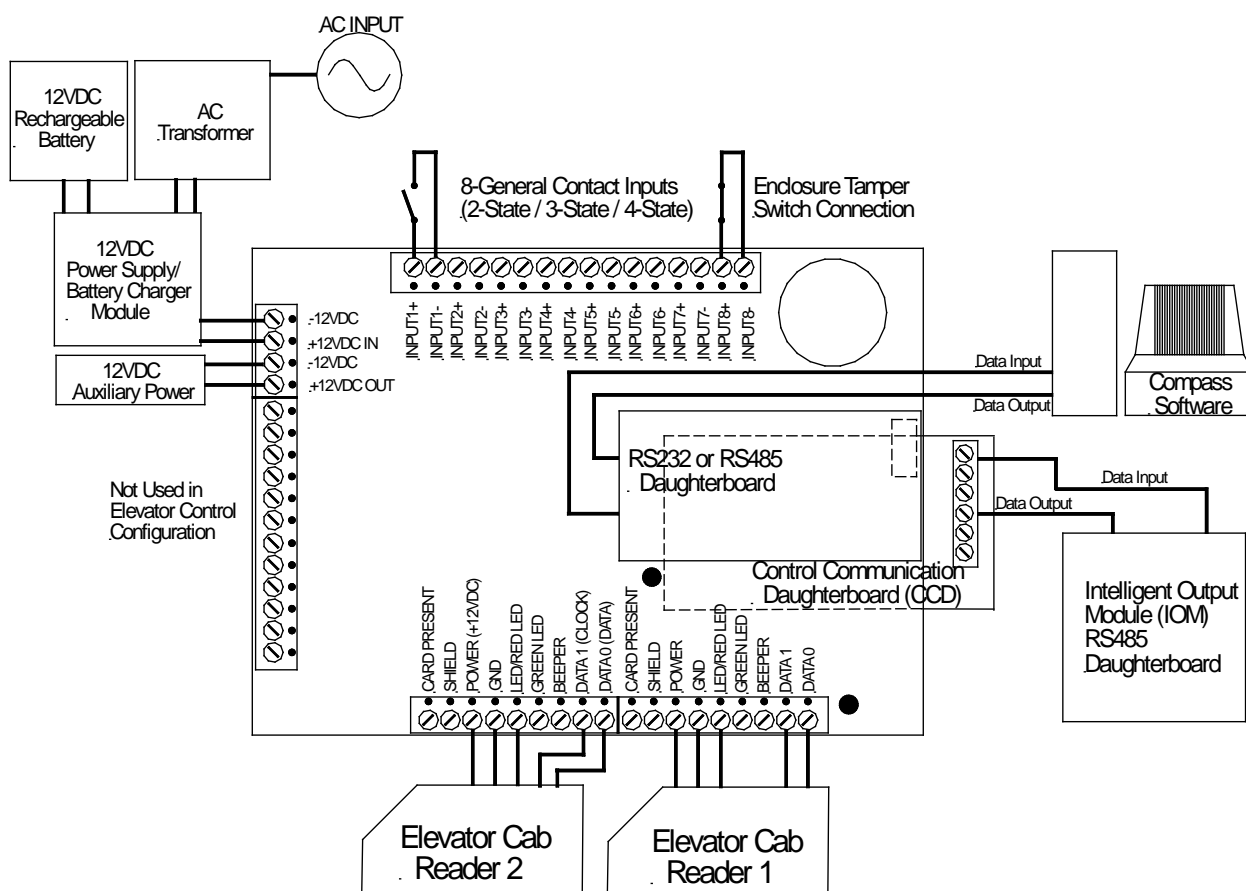

Figure 11-5. IRM Wiring Diagram for RCO Operation
7. Install the tamper switch wiring to Input #8 (see Figure 11-5).